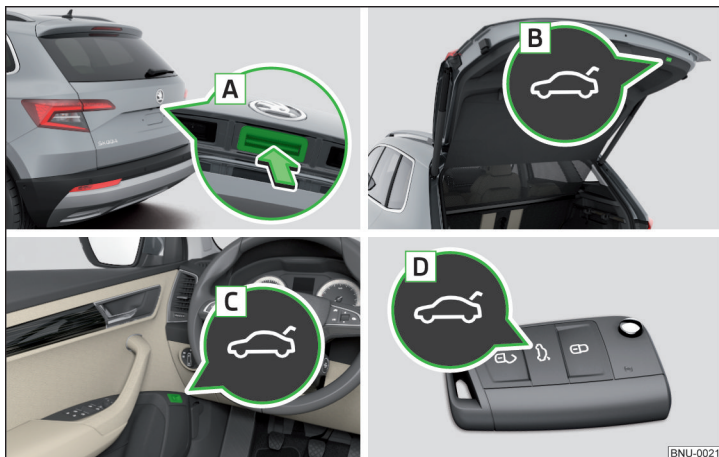

Fig. 55 Lid operation
- ▶ By pressing the handle **A** » Fig. 55.
- ▶ By pressing the button **B** » Fig. 55.
- Button **A** » Fig. 55 is deactivated when starting or at a speed of more than 5 km/h. The button is activated again after the vehicle has stopped and a door is opened.
- › Press and hold button **B** » Fig. 55 on page 66 until you hear an acoustic signal.
The lid does not react to an opening signal	Removing a possible obstacle (e.g. snow), re-opening the lid » page 66 Press handle A » Fig. 55 on page 66 and pull the lid upwards